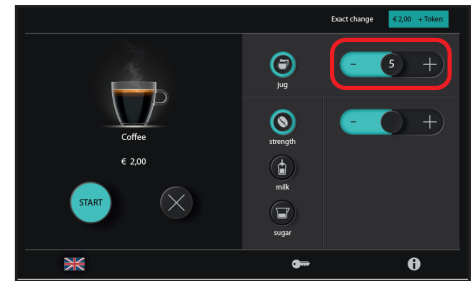

Figure 21.
- Now select the quantity by dragging the bar (see Figure 21).